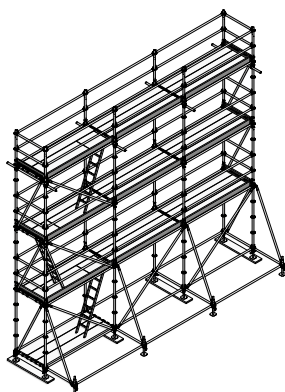

Fig. 26.1
- Complete scaffolding as shown (Fig. 26.1)